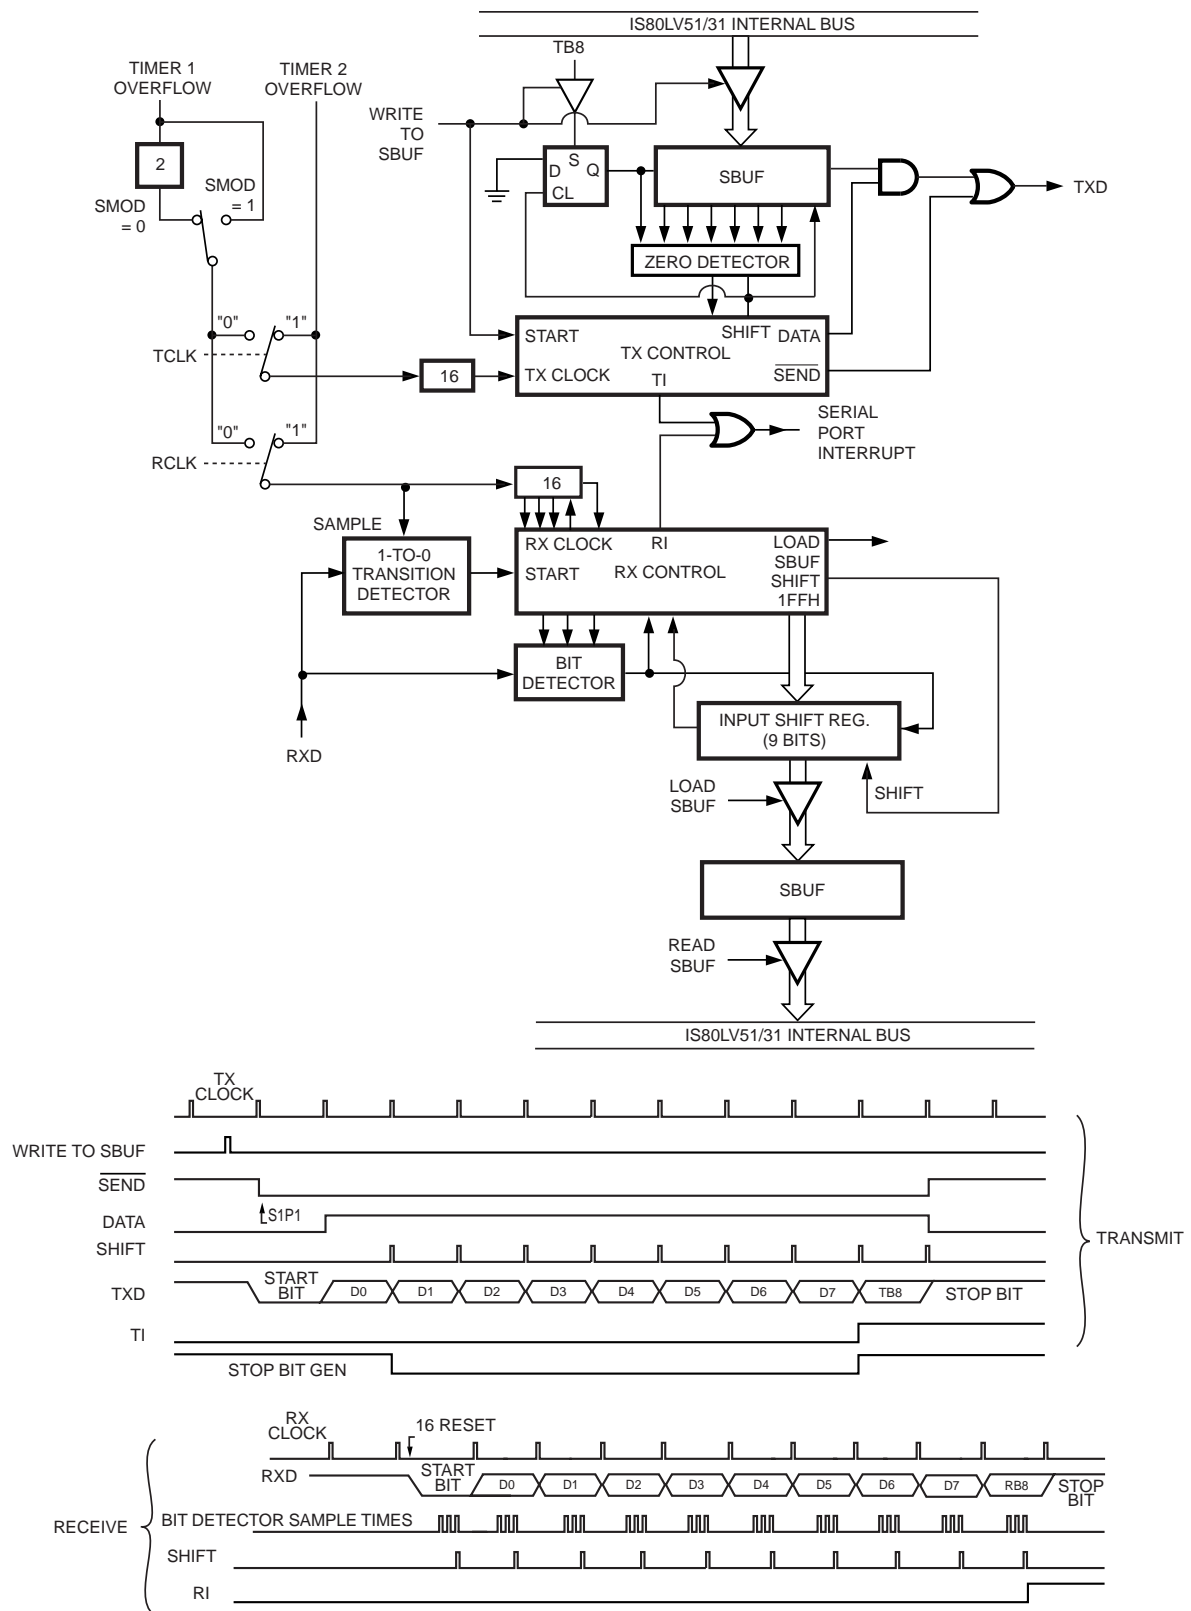

Figure 15. Serial Port Mode 3
Eleven bits are transmitted (through TXD) or received (through RXD): a start bit (0), eight data bits (LSB first), a programmable ninth data bit, and a stop bit (1). In fact, Mode 3 is the same as Mode 2 in all respects except the baud rate, which is variable in Mode 3 (see Figure 15).